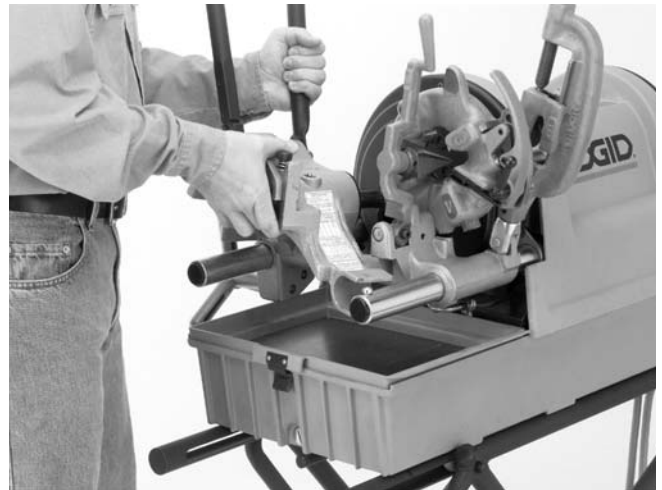

Figure 4 – Mounting on No. 1822-I Threading Machine (Same applies to Models 300 Compact and 535 Threading Machines)
3. Place 916 on far side of carriage rail, lower onto front rail (Figure 4).